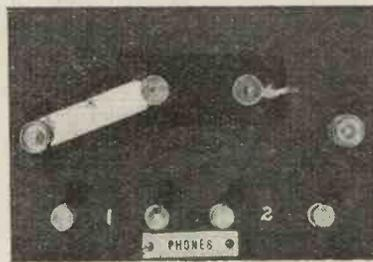

Fig. 16—Top of panel view of Unit No. 3.
**T**HIS unit is intended for connecting one or more pairs of telephones to the receiver; and is seen in the photograph Fig. 16, which shows the front of the panel. The materials necessary for its construction are merely one piece of ebonite measuring 6 in. by 4 in. by  $\frac{1}{4}$  in., one fixed condenser of 0.002  $\mu$ F. capacity and eight terminals.